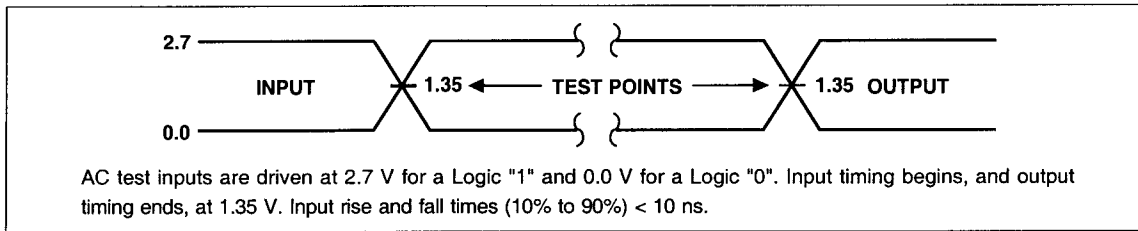
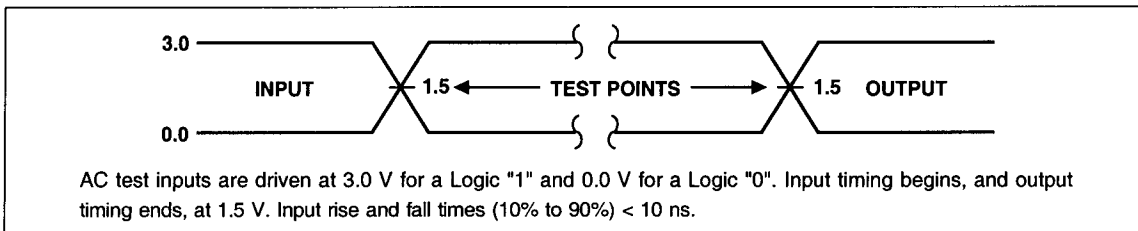

Fig. 12 Transient Input/Output Reference Waveform for $V_{CC} = 2.7$ to 3.6 V
Fig. 13 Transient Input/Output Reference Waveform for $V_{CC} = 3.3 \pm 0.3$ V
1. See AC Input/Output Reference Waveform (Fig. 12 and Fig. 13) for maximum allowable input slew rate.